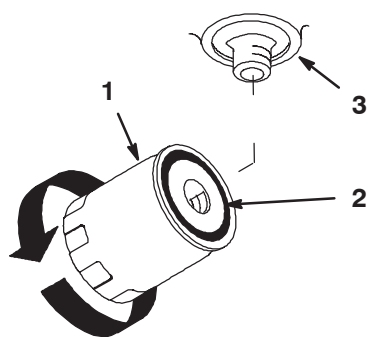

Figure 55
4. Apply a thin coat hydro fluid to the rubber gasket on the replacement filter (Fig. 55).
6. Fill the hydraulic tank with hydraulic fluid until the fluid overflows the filter and then turn the oil filter clockwise until the rubber gasket contacts the filter adapter, then tighten the filter an additional 1/2 turn (Fig. 55).